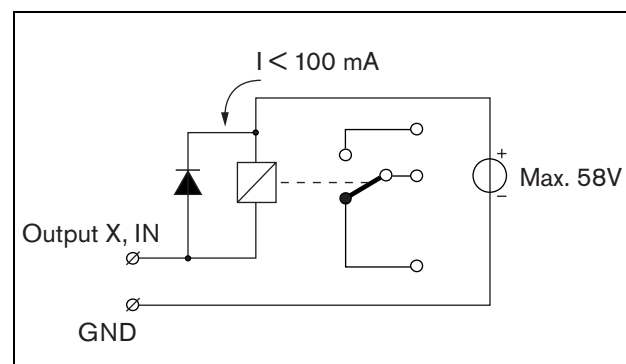

figure 15.9: Externally powered relay
- Externally powered relay. See figure 15.9 for a connection diagram.